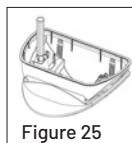

Figure 25
8. If you need to replace the bumper, turn the housing/ bumper assembly upside down and remove the two flex snaps holding the bumper to the housing, (see Figures 25 & 26). Use a piece of $\frac{1}{2}$ in. (inside diameter) PVC pipe to slide over the flex snap ends to squeeze the flex snaps together so they can be slid out of the housing. Use a pair of pliers to pop the flex snaps off of the bumper.
NOTE: The notch on the center disk of the Large Steering Drive Assembly must be down (as shown in Figure 25) for assembly.